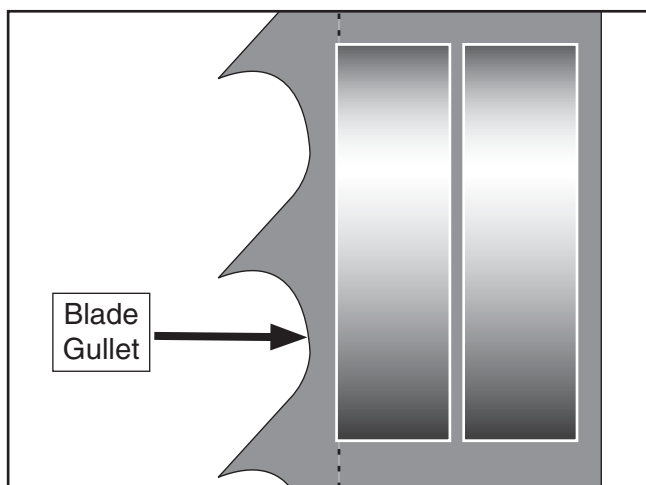

Figure 56. Lateral adjustment of blade guides.
4. Loosen the cap screw on the lateral adjustment rod and adjust the blade guides until the edges of the bearings are $\frac{1}{16}$ " behind the blade gullets, as illustrated in **Figure 56**.